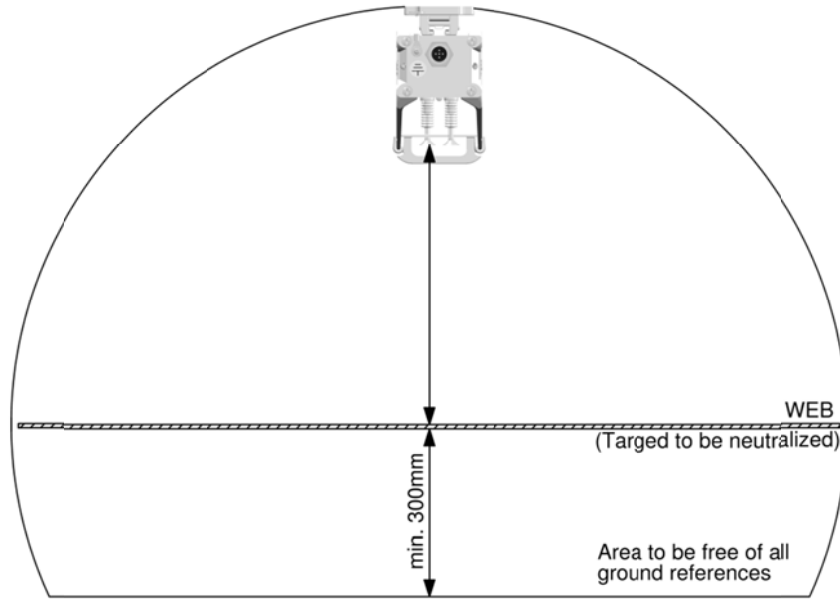

Figure 3
- **For optimum results, the anti-static bar must be fitted as per Figure 3**
1. Mount the anti-static bar using the mounting materials provided (see fig. 3, 4, 5 and 6).